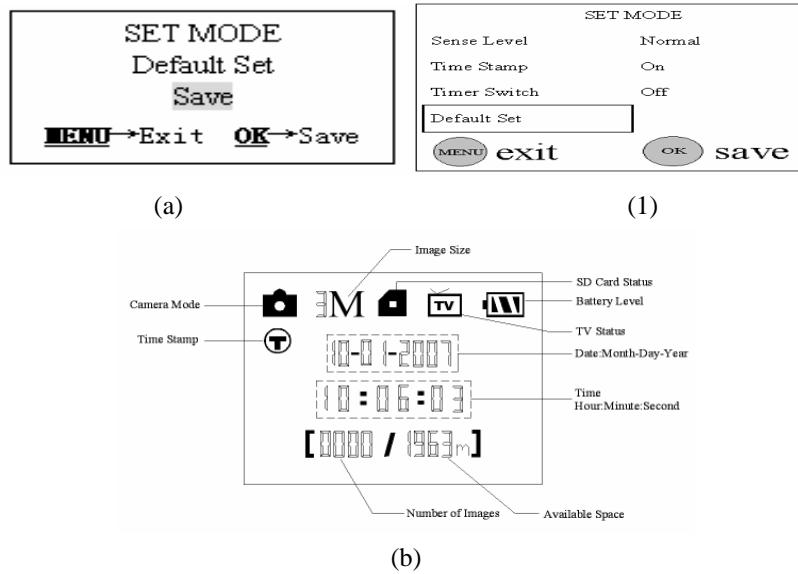

Figure 16: Loading default settings
- In MENU state press the UP or DOWN key till the parameter “Default Set” appears as shown in the Fig. 16(a) and 16(1).
operation. After pressing OK key related parameters are set to default values (see Table 1). And then the system enters into preview state and some icons shows in the LCD as illustrated in Fig. 16(b).